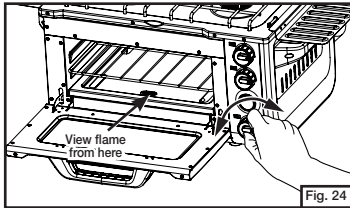

Fig. 24
- Open the oven door to view the burner flame below the heat diffuser. Adjust flame with control knob. (Fig. 24)